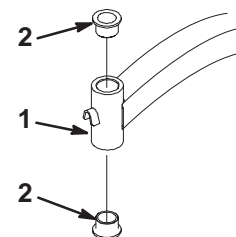

Figure 80
4. Insert a pin punch into the mounting tube and carefully drive out the bushings (Fig. 80). Clean the inside of the mounting tube.